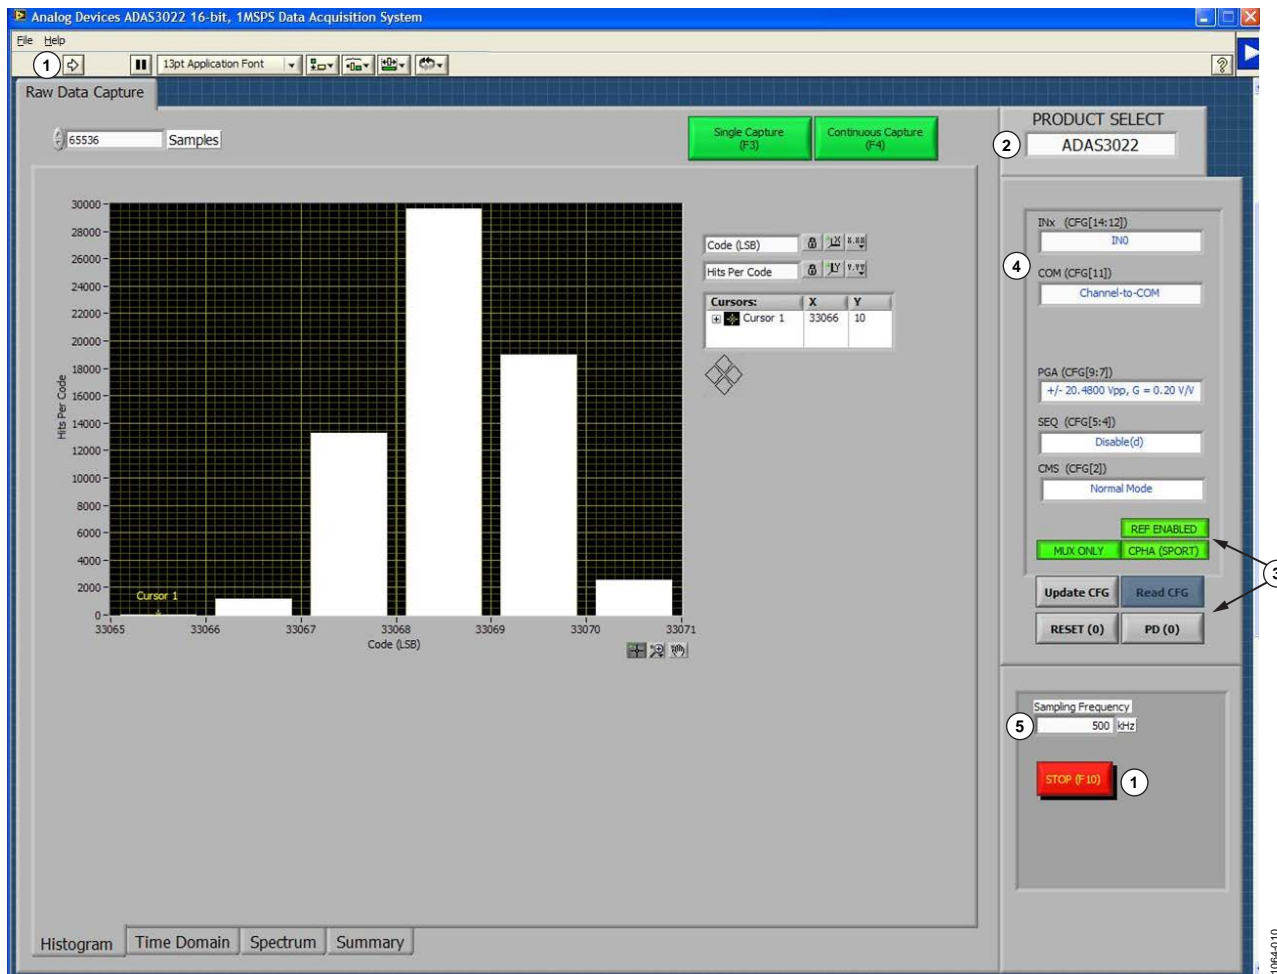

Figure 10. Setup Screen
Refer to the numbered labels in Figure 10 which match the numbered descriptions in this section.
- When running the software from **Start/All Programs/Analog Devices**, the software automatically runs. Select **STOP (F10)** to stop the software and display the right arrow (see 1 in Figure 10). This arrow is used to start the software again. When running the software, this icon is not displayed.
- PD (0)** places the ADAS3022 device in power-down. This does not need to take place when starting the software.
4. The CFG controls (labeled 4 in Figure 10) are used to set the CFG. See the Software Controls section.